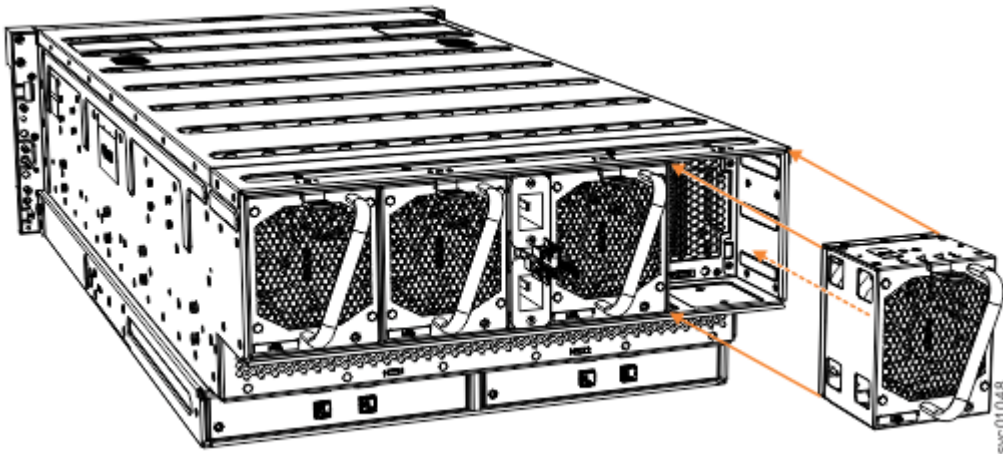

Figure 135. Remove and replace a fan module
3. Use the handle to pull the fan module out of the expansion enclosure chassis, as shown in Figure 135 on page 187.
6. Carefully insert the fan module into the chassis until it clicks in place, as shown in Figure 135 on page 187.